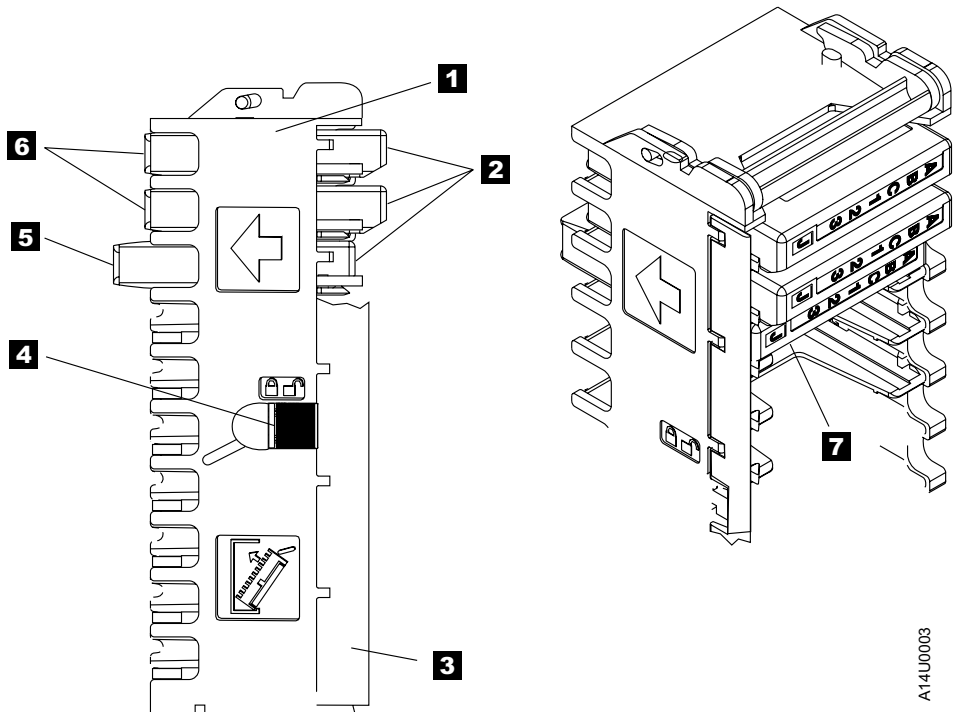

Figure 14. Left View of the 3590 Magazine Cartridge Positions
The magazine has two cartridge storage positions as shown in Figure 14 on page 52. They are the *import* and the *export* positions. A cartridge is in the import position when the cartridge is inserted into the operator side (see item **10**) of the magazine. You must insert the cartridge past the first detent, thus allowing the cartridge to stop on the second detent. This procedure places the leader block end of the cartridge closest to the machine side (see item **4**) of the magazine.
Figure 14 shows a partially loaded magazine. The magazine (see item **1**) includes two cartridge positions.
3. Cartridges are inserted into the magazine from the door side (see item **3**) of Figure 14.
Note: The magazine cartridge lock **4** in Figure 14 on page 52 must be in the unlocked position before you insert or remove cartridges from the magazine. The door **3** of the magazine **1** will be damaged if cartridges are moved with the magazine lock in the locked position.
Note: Always engage the magazine lock **4** (Figure 14 on page 52) before you transport a loaded magazine to avoid dropping the cartridges or shifting their position in the magazine.
The magazine has a door (3 in Figure 14 on page 52) that extends along the entire length of the magazine. The door is located at the front left side of the magazine when viewed from the front. A hand-operated slider is located in the middle of the magazine frame. The two positions for the magazine lock are as follows: